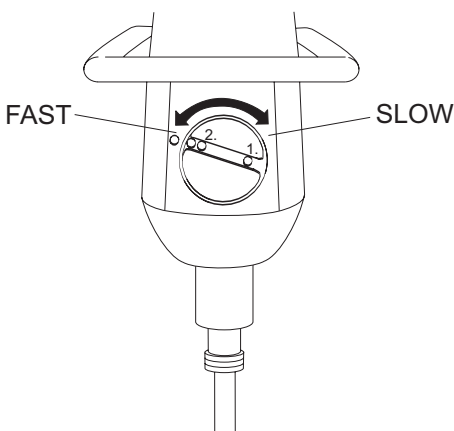

Figure 5. Gear Selection Lever
3. To change the maximum speed, first make sure that the power is off then turn the gear selection lever 180° (Figure 5). First gear is slow and second gear is fast. Turn only when machine is not in motion.